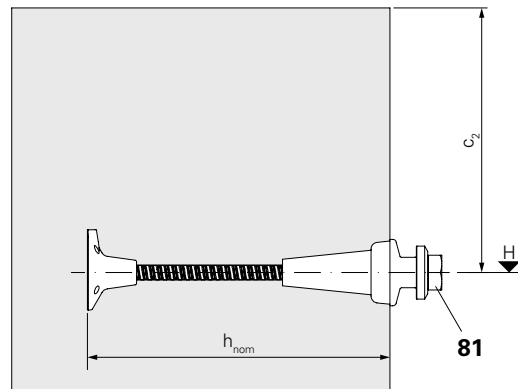

Fig. 03
(Fig. 03)
- $c_2 = 350$  mm Standard spacing to the concrete joint if not specified in the plan. (Fig. 03)